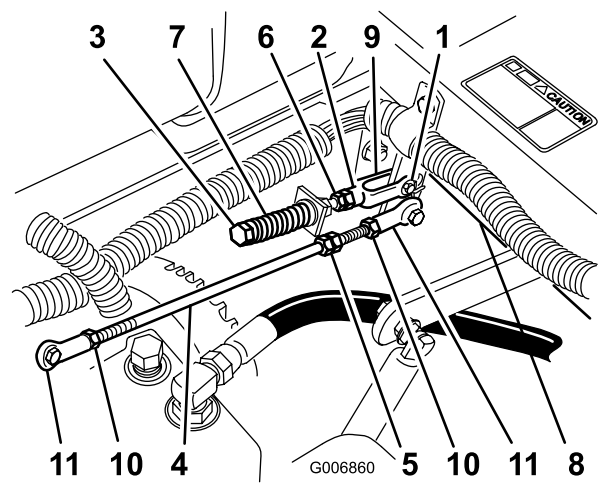

Figure 63
1. Loosen the locknuts at the ball joints on the pump control rod (Figure 63).
3. Adjust the pump rod length by rotating the double nuts on rod, in the appropriate direction, until wheel is still or slightly creeps in reverse (Figure 63).
6. Tighten the locknuts at the ball joints (Figure 63).